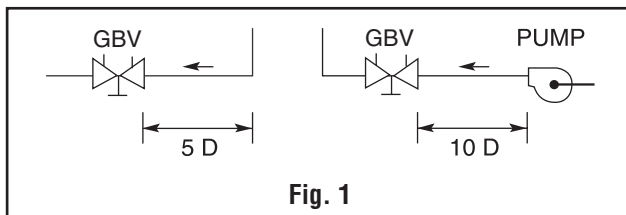

Fig. 1
- To ensure accuracy of measurement Circuit Balancing Valves (GBV's) should be located at least five pipe diameters downstream from any fitting and at least ten pipe diameters downstream from a pump (as illustrated in Fig. 1).